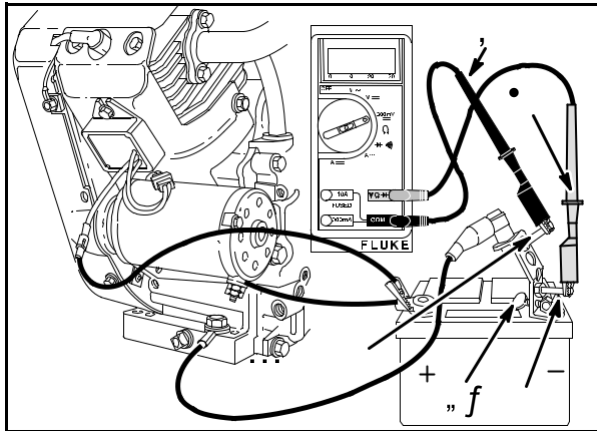

Fig. 28
The DC shunt **MUST** be installed to the **NEGATIVE (-)** terminal of the battery, **Fig. 28**. All connections must be clean and tight to obtain accurate readings.
Insert RED test lead (1) into **VW** receptacle in meter. Connect to RED post terminal (3) on shunt, **Fig. 28**.